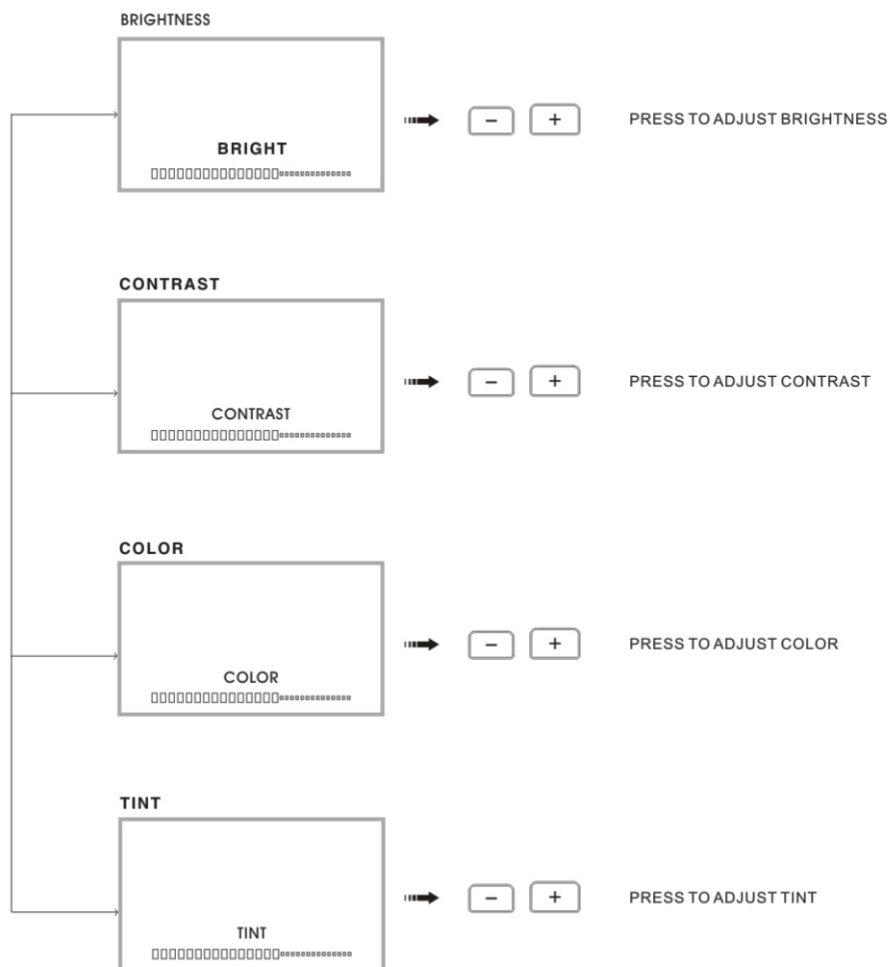

Fig.1 Brightness, contrast, color and tint control
- Each one press less than 1 second enters brightness, contrast, color or tint adjust mode in turns (See Fig.1)